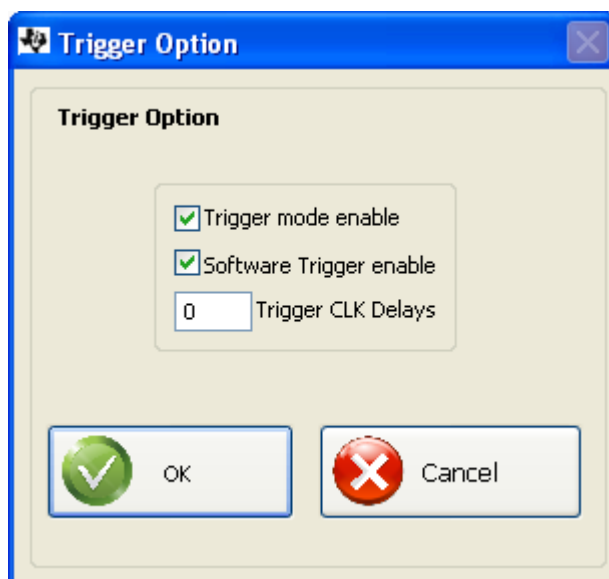

Figure 7. Trigger Option Dialog Window
- For the ADS54T0x, the TSW1400 may be used to source the trigger to the ADS54T0x EVM by using the Trigger menu in the High Speed Data Converter Pro GUI as shown in Figure 7.